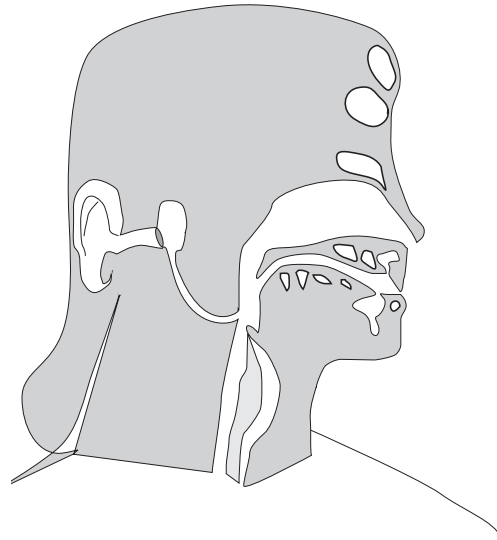

Figure 159.1 Sinuses
- Mark in the following in Figure 159.1: